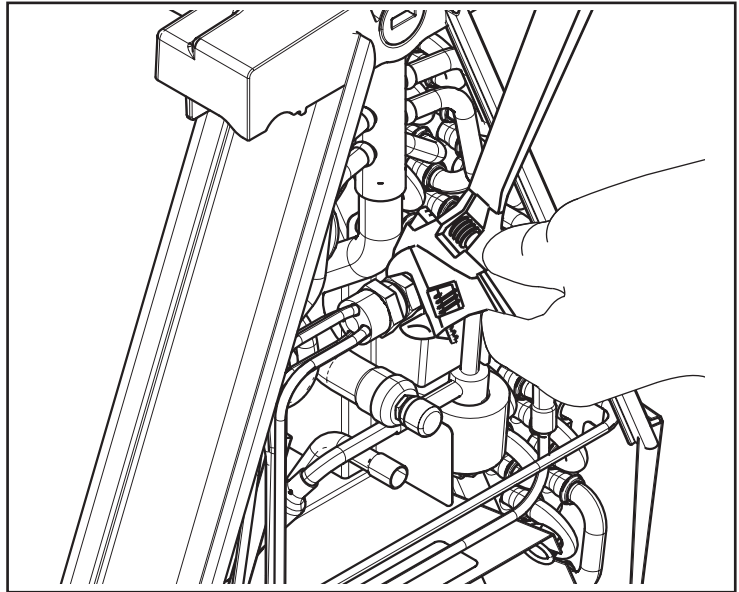

Figure 81 – Attach EEV Assembly
- Put the EEV in place and using two adjustable wrenches, attach and tighten the EEV flow control assembly at the mechanical fitting as shown in Figure 81. Tighten the fitting approximately 1/2 a turn past finger tight.